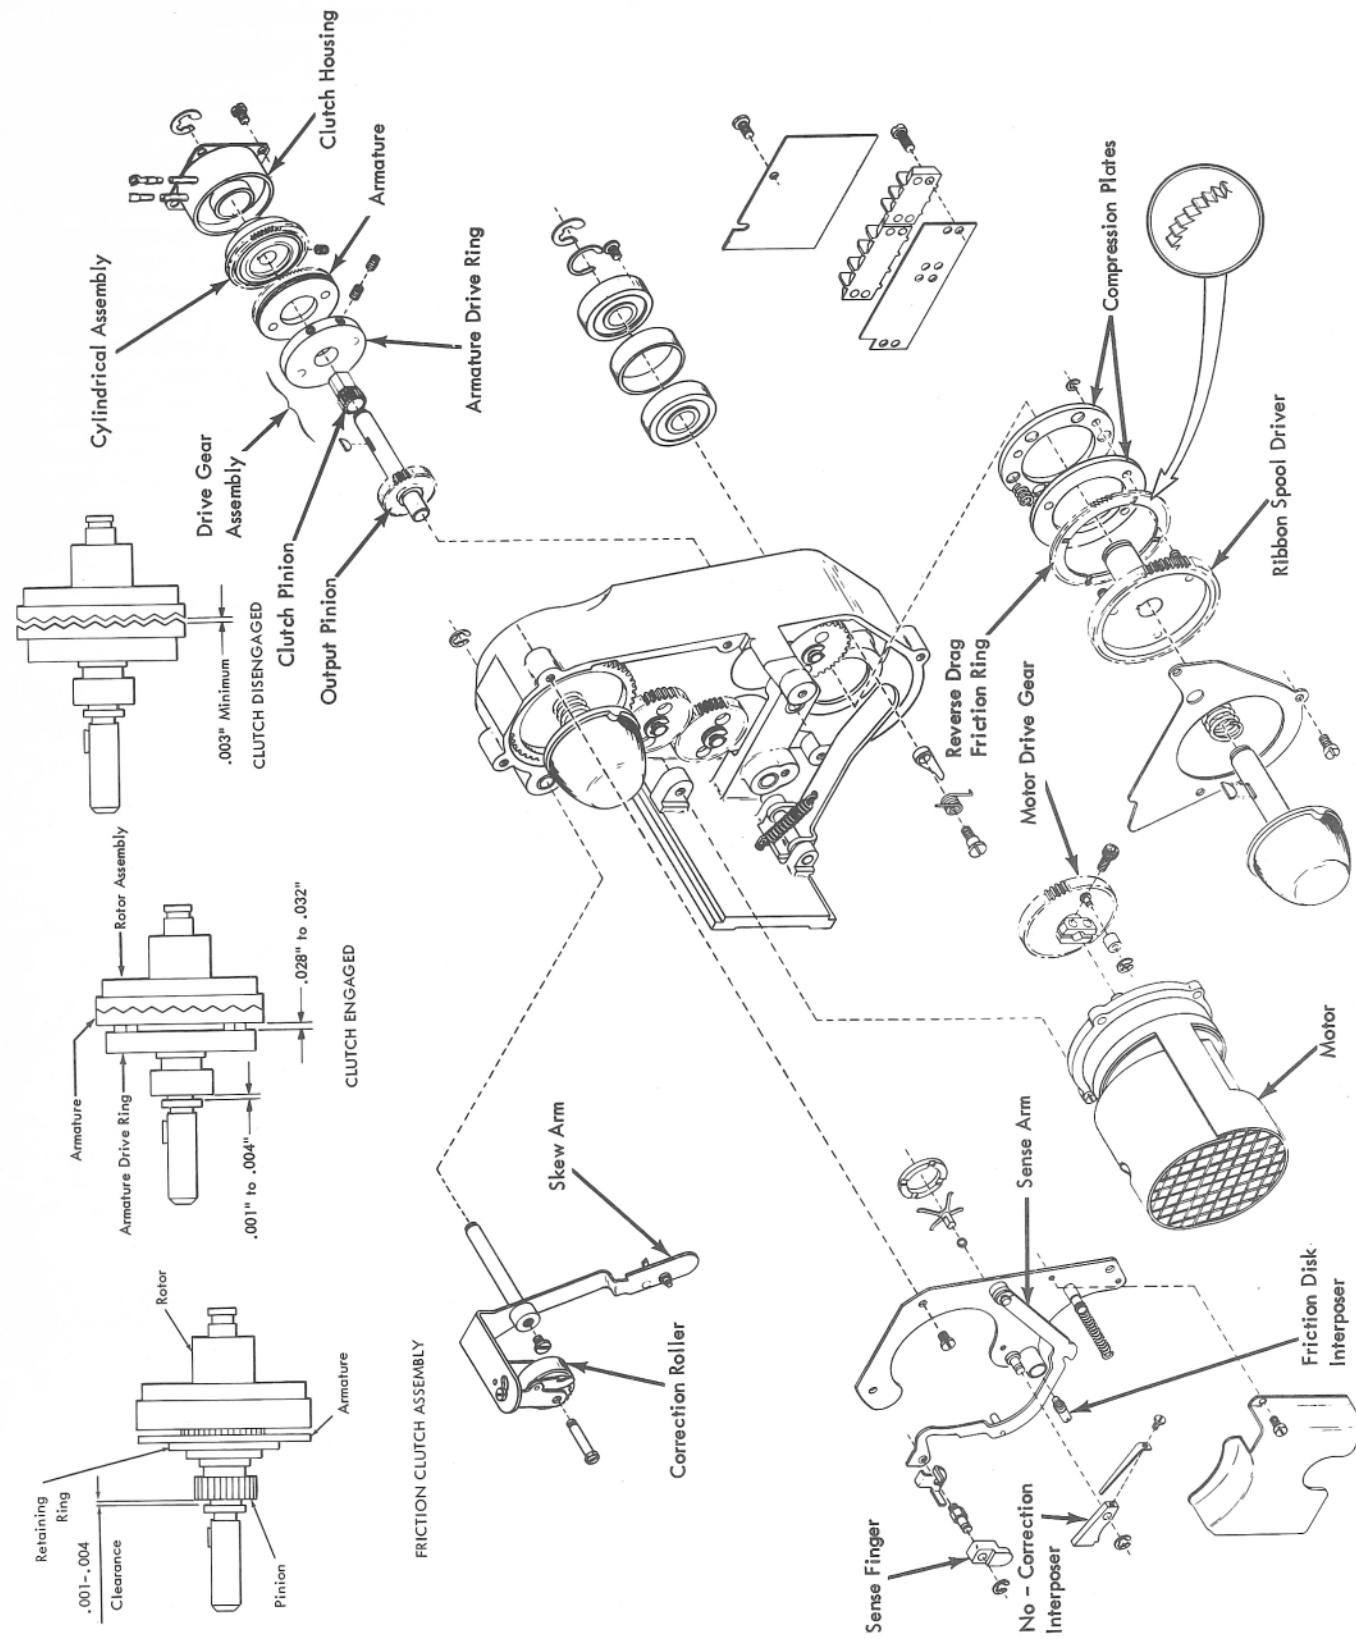

Figure 8. Ribbon Drive Unit
Lower Ribbon and Brake Assembly Removal (Figure 8)
Upper Ribbon Drive and Brake Assembly Removal (Figure 8)
Disassemble Ribbon Drive and Brake Assembly (Figure 8)
Ribbon Clutch Adjustment - Out of Machine (Figure 8)
8. Adjust the clutch drive gear assembly for correct engagement (Figure 8).
Ribbon Drive Motor Positioning (Figure 8)